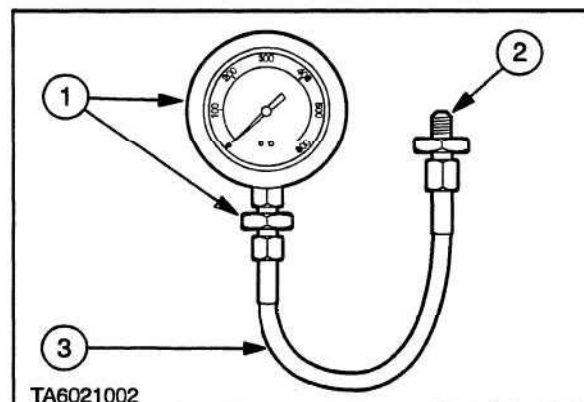

Figure 4-2-12
2. Install suitable pressure gauges, Figure 4-2-12,